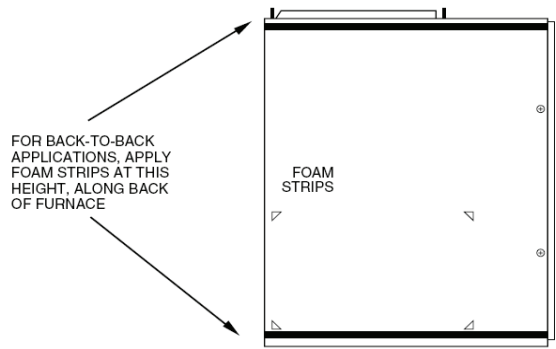

Fig. 6 – Location of Foam Strips
3. Apply two factory-supplied foam strips to mating side of one furnace. Locate strips equal distance from top and bottom as shown in Fig. 6.
3. Each piece of angle iron must be secured to the bottom of each furnace with at least two (2) No. 8 x -in. (19 mm) sheet metal screws.
7. Apply two factory-supplied foam strips to the back of each furnace. Locate strips equal distance from top and bottom as shown in Fig. 6. Trim off excess material.